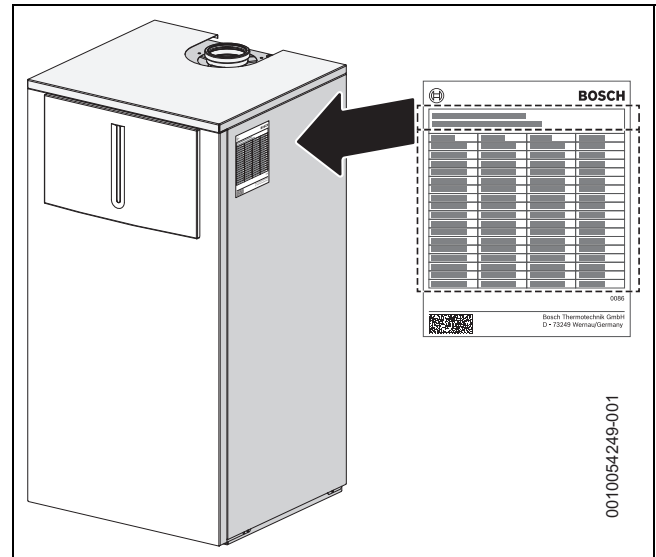

Fig. 78 Attaching the rating plate
- ▶ Remove the sealed screw (→ Fig. 78, [3]) from gas valve adjustment screw (→ Fig. 78, [2]) and set CO₂ or O₂ level for minimum nominal output.
- ▶ Reinstall the screw (→ Fig. 78, [3]) to cover the gas valve adjustment screw.